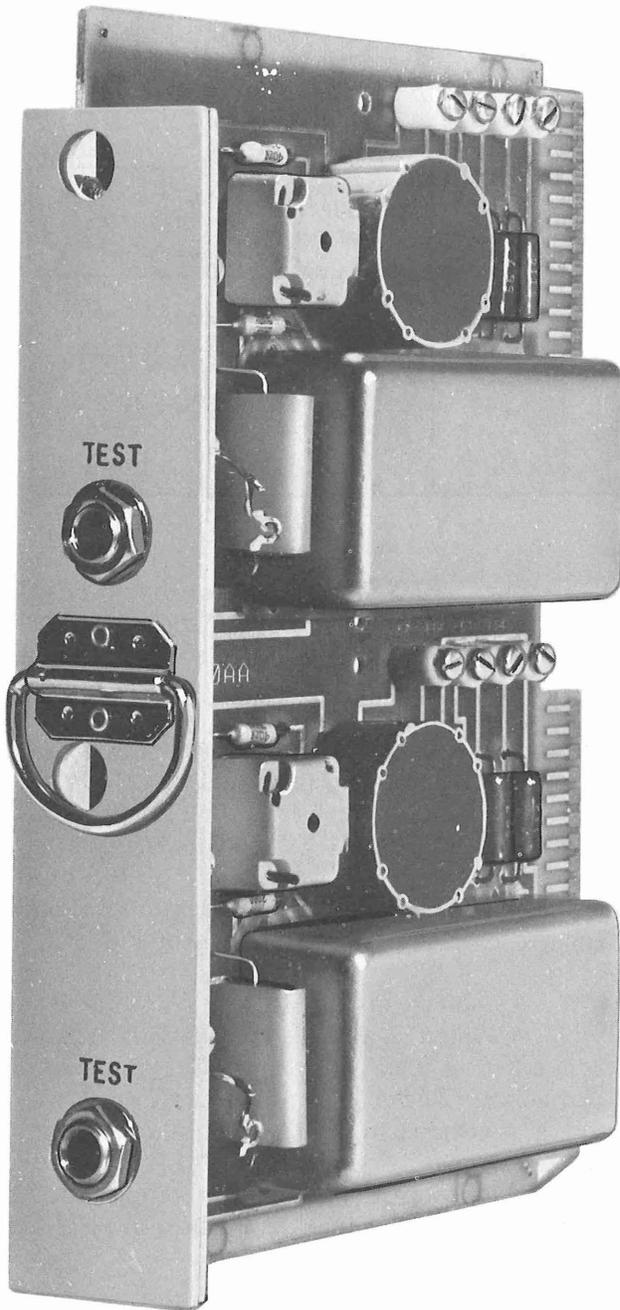

Fig. 2—J99380AA Plug-in Unit
2.04 Terminal balance is accomplished by the use of 837-type impedance compensator networks or the CPFT equivalent, Fig. 2, at the PBX. Either